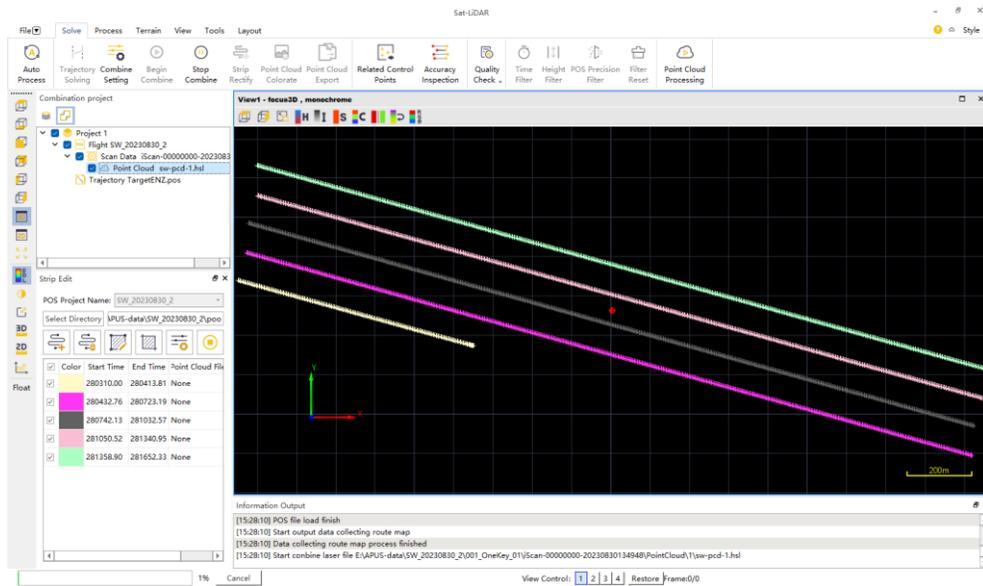

Figure 3-62 Start combine
2. Click the menu <Solve>→<Begin Combine>, or click the toolbar tool button  , to start fusing the data, the status bar displays the progress of combine and combine of the information output in the log view (Figure 3-62).
1. Open the combine project in the project management panel, load and display the point cloud files, click <Solve>→ < Trajectory Rectify >, and then "Trajectory Rectify" box pops up (Figure 3-62).